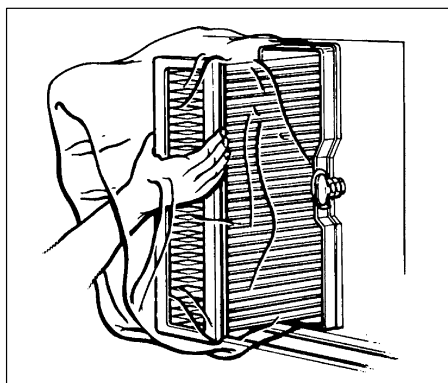

Fig. 5-3 'Clean change' option
- d. Clamp the polythene bag over the filter module as shown in Fig. 5-3.